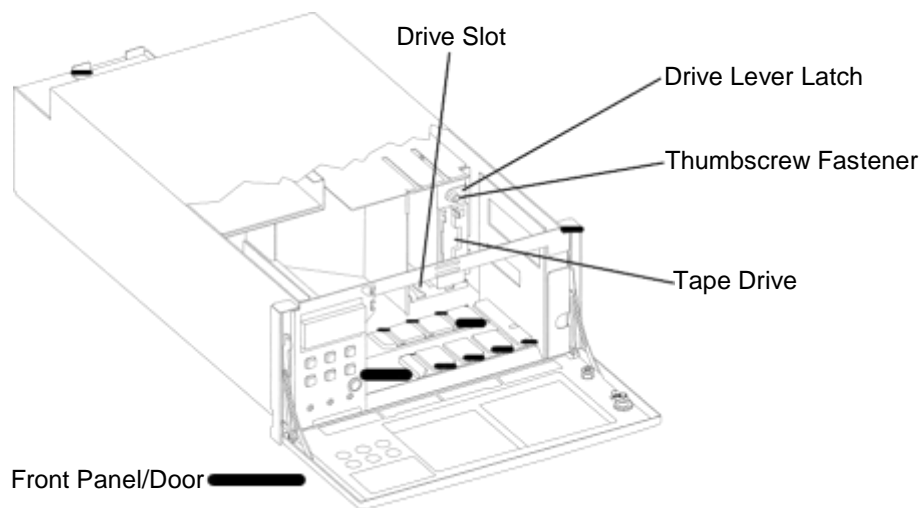

Figure 5-3 Drive Carrier Insertion/Removal
2. Insert the drive filler into the empty drive bay making sure that the tab is inserted into the drive slot. See Figure 5-3 for a view of the drive slot location.